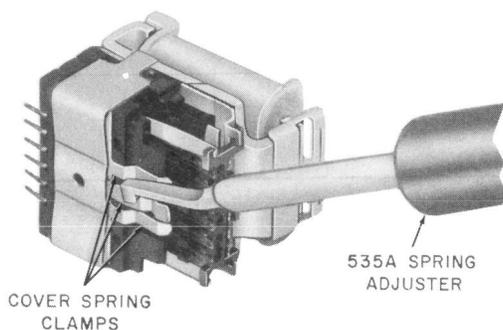

Fig. 8—Adjusting Clamps of Cover Spring
- (1) If the contact cover is not satisfactorily held in place on the relay, remove the cover and adjust the clamps of the cover spring as required using the 535A spring adjuster (see Fig. 8 and 1.03).